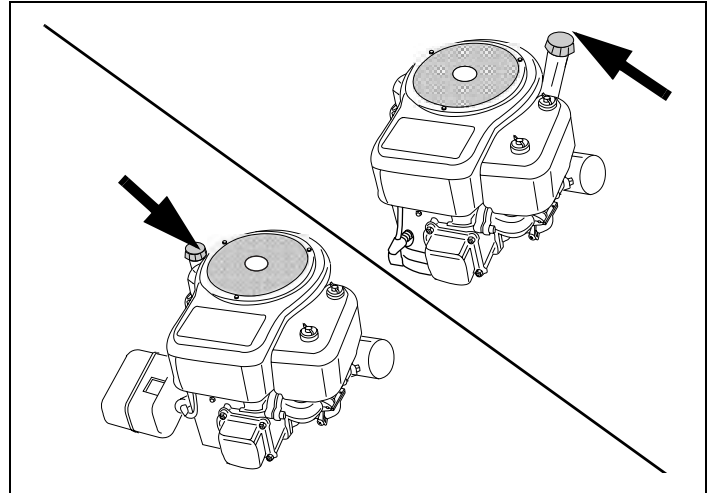

Figure 20. Oil Filler Locations
8. Fill with recommended oil. See "III. Oil and Fuel Specifications" instructions and Table 1 on page 4. See Figure 20. Afterward, continue reading instructions below.